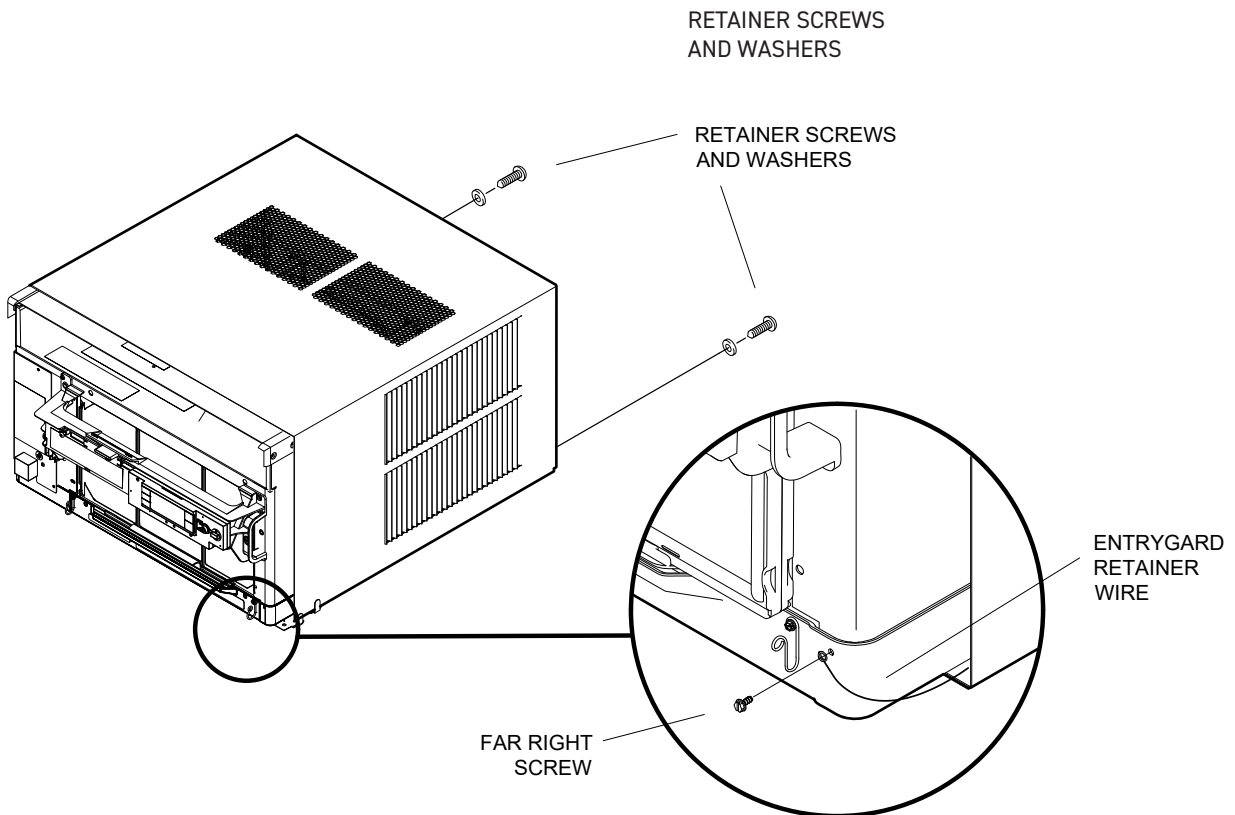

Figure C.5.1
STEP 1. Remove the chassis EntryGard™ retainer by removing the far right screw (see Figure C.5.1). Save this screw to reattach the chassis retainer after installation (Step 12). Also, remove and discard the two retainer screws and washer located at the rear of the unit (see Figure C.5.1).
STEP 12. Reattach the EntryGard™ chassis and EntryGard™ retainer wire with the same screw retained in Step 1 (see Figure C.5.1)..